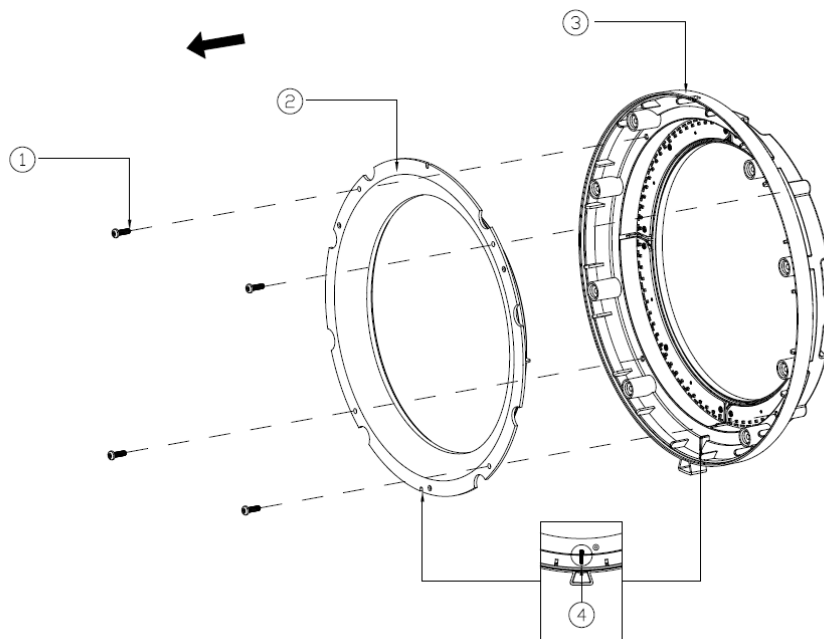

Figure 11-1
(11) Disassemble the Main Body Support-Down and the Diffusion Ring
As shown in Figure 11-1, remove 4 screws (1), remove the Diffusion Ring (2) (RVM100-DIFSR) and the Main Body Support-Down Package (3). The specification of the screw is the self-tapping screw, ST3*10mm.